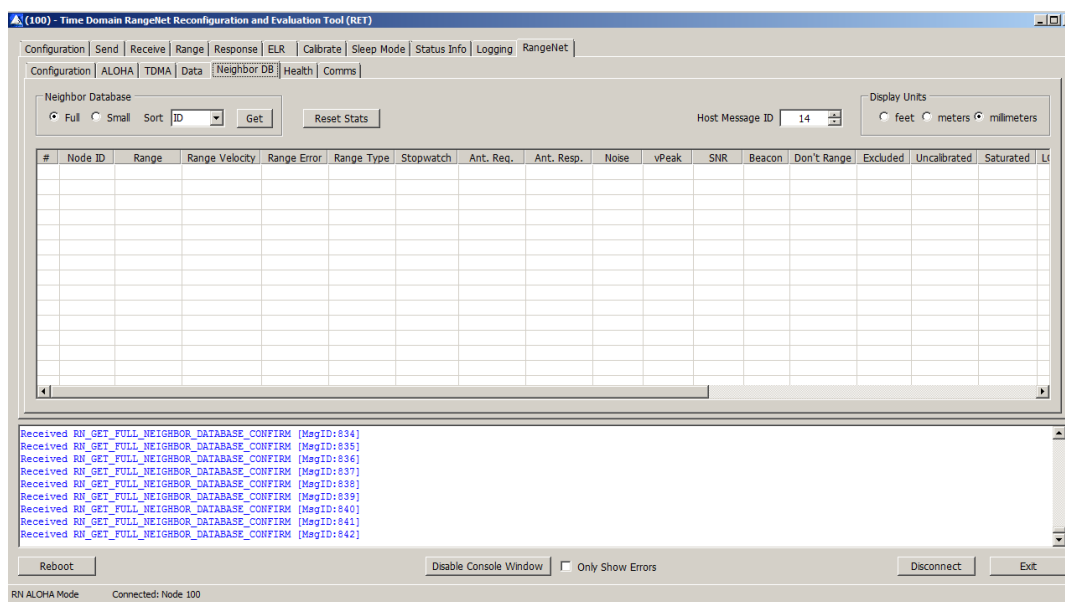

Fig. 14: Unit 100 RangeNet Neighbor Database showing the 16 left-most database values
- Click on the Neighbor Database (DB) Tab. See **Figure 14**. This screen shows the status of the network. Since this is the first unit on the network, there are no other units in the system.